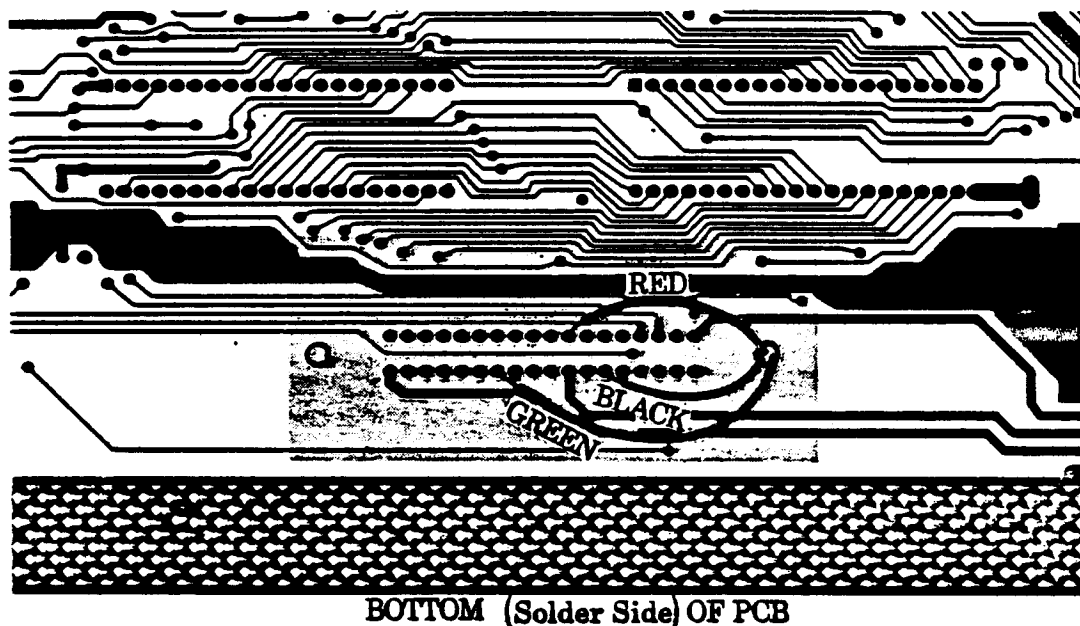

Figure 4. Wire Connection Diagram.
7. Using Figure 4 as a reference, perform the following: